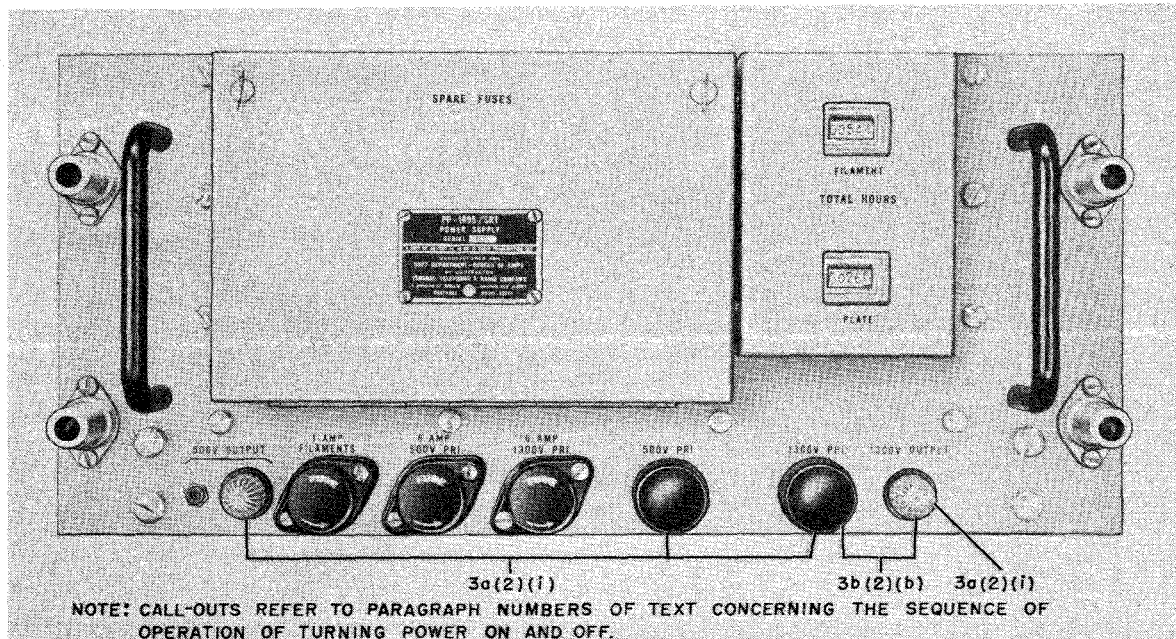

Figure 4-7. Power Supply PP-1095/SRT (Medium Voltage Power Supply, MVPS), Front Panel Controls and Indicators
(7) FUSES.—The 10 AMP. fuse on the lower right of the front panel protects all d-c control voltages. Failure of this fuse will prevent the TIME DELAY indicator light from lighting. The 5 AMP fuse on the lower left limits total current for the d-c control supplies and for the $+250\text{V}$, -220V , and $+300\text{V}$ supplies. Its failure will prevent the corresponding indicator lights from coming on.
e. POWER SUPPLY PP-1095/SRT (MEDIUM VOLTAGE POWER SUPPLY).—The front panel of the medium voltage power supply, MVPS (figure 4-7), mounts four indicator lights, two elapsed time meters, 3 fuses, one test point, a set of spare fuse holders. Two indicator lights (red for the a-c input, neon for the d-c output) are provided for each of the power supplies, $+500\text{V}$ dc and $+1,050/+1,300\text{V}$ dc, which are contained in this unit. One of the elapsed time meters indicates the total hours of filament operation, the other shows total hours of plate power on. One fuse limits the total filament current drawn by the two power sup-